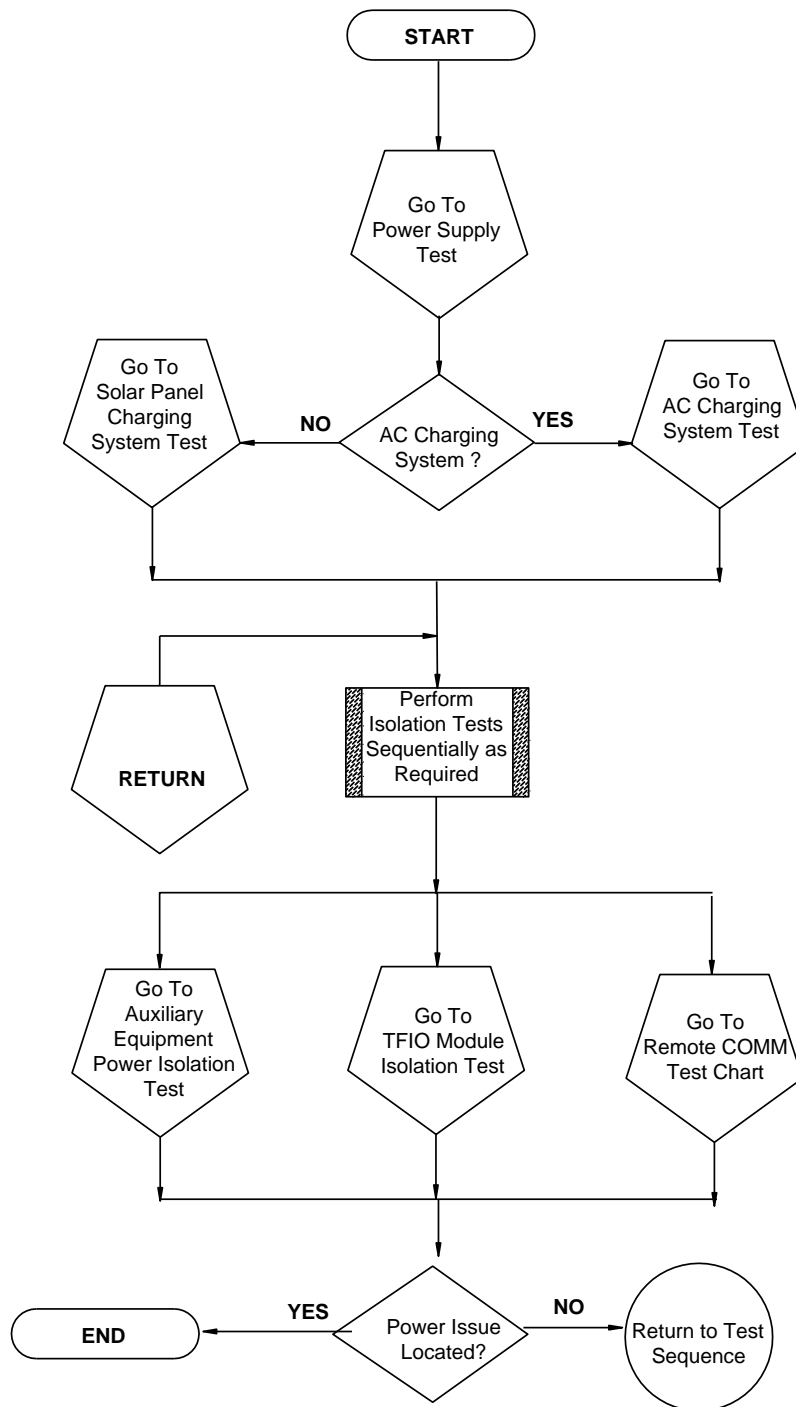

Figure 80: Power troubleshooting flowchart
5. If voltage is still low, investigate power issues following Figure 80: *Power troubleshooting flowchart*.
This section focuses on determining what has caused the XRCG4 to lose power. Generally, loss of power can be attributed only to the power supply system. However, if the power supply system is used for powering a transceiver, or other peripheral equipment, a problem with that equipment may drain the battery and cause the XRCG4 to lose power. Notice that the *Power troubleshooting flowchart* (Figure 80) goes through several tests but also directs the user to Figure 79: *Communication troubleshooting flowchart* located later in this section.
11. Measure the voltage at the charging source cable. Measure the voltage at battery pack. Compare voltages. If the charging source voltage is less than (+) 0.4 Vdc higher than the battery voltage, return to Figure 80: *Power troubleshooting flowchart* and continue.
1. Check the DC wiring to the XRCG4 termination block connector J17 (see Figure 80). Be certain wiring is correct.
9. If the power drain has not been located, return to Figure 80: *Power troubleshooting flow chart*.
7. If a power drain has not been located, return to the *Power troubleshooting flow chart* (see Figure 80).